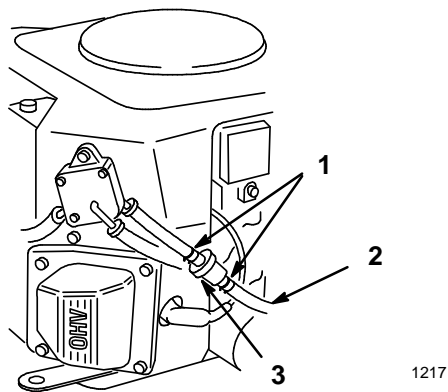

Figure 29
4. Squeeze the ends of the hose clamps together and slide them away from the filter (Fig. 29).